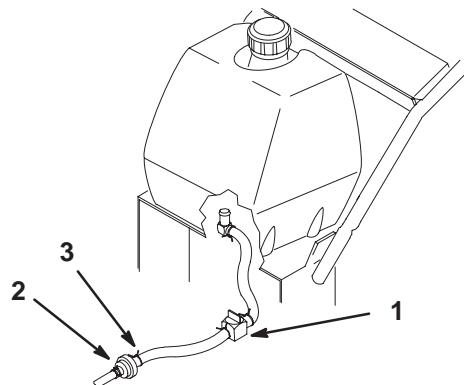

Figure 42
2. Close the fuel shut-off valve in fuel line (Fig. 42).
3. Squeeze the ends of the hose clamp together and slide it up the fuel line away from fuel filter (Fig. 42).
4. Pull the fuel line off the fuel filter (Fig. 42). Open fuel shut-off valve and allow gasoline to drain into a gas can or drain pan.
2. Close fuel shut-off valve (Fig. 42).
6. Open fuel shut-off valve at fuel tank (Fig. 42).